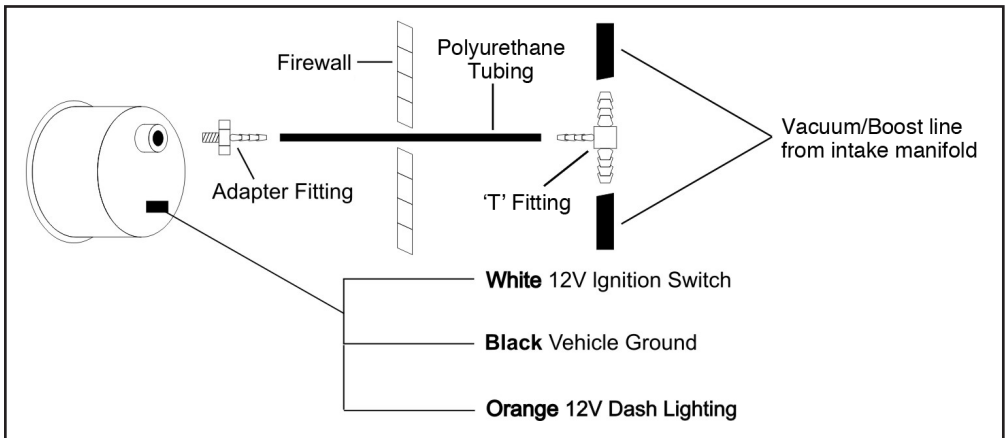

Figure 1
1. Using Fig. 1 as a guide, connect adapter fitting (#2) to vacuum/boost gauge (#1). Do not overtighten.